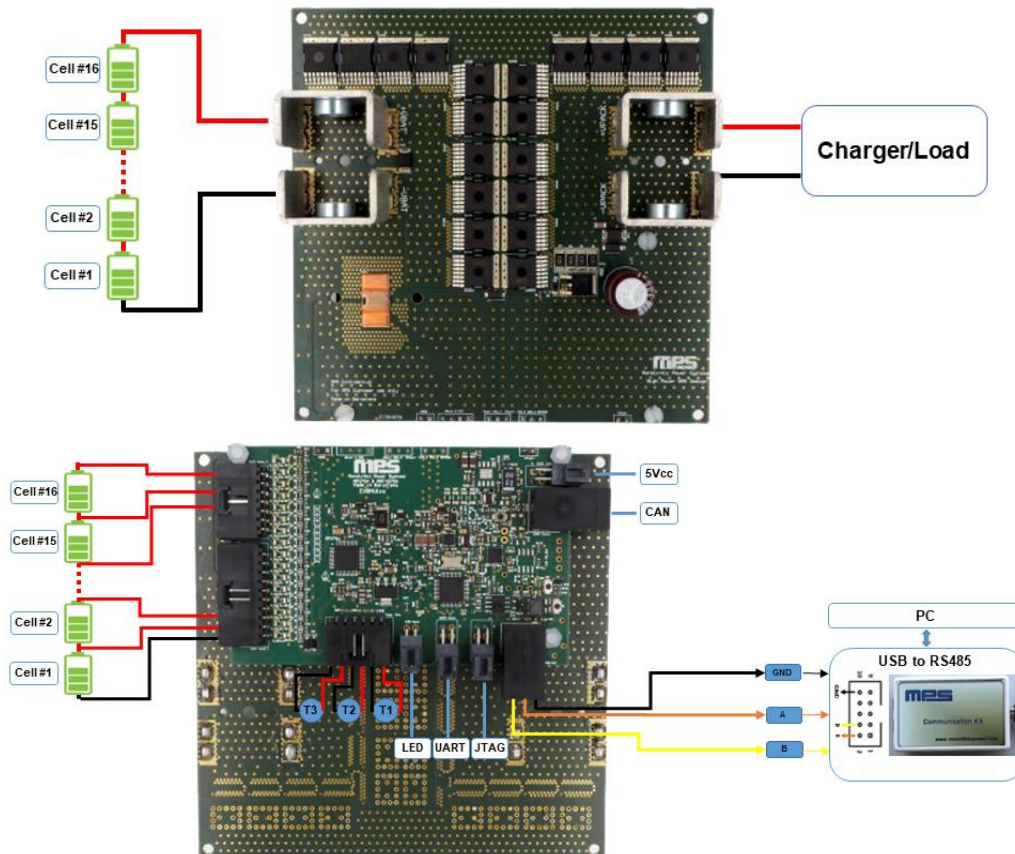

Figure 22: Board Wire Connection
The hardware must be properly configured prior to use, and the board connections must be correct. For the best results, refer to Figure 22 and follow the steps below:
1. Connect the cell terminals to the sensing connectors (see Figure 22 on page 22).
2. Select the evaluation board in use (see Figure 22 on page 22). The desired BMS and fuel gauge (FG) IC can be selected in a few ways.